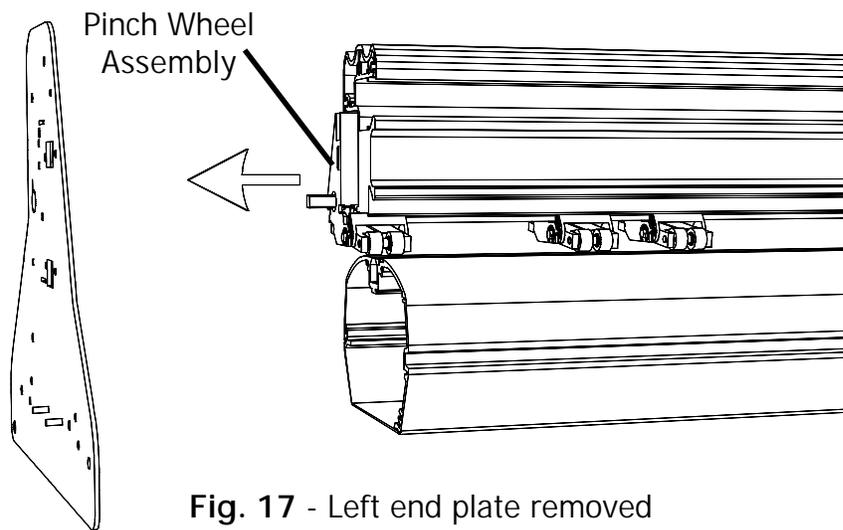

Fig. 17 - Left end plate removed
- 10) With the left end plate removed, lift the traverse extrusion up, and slide the pinch wheels off of the machine. See Fig. 17